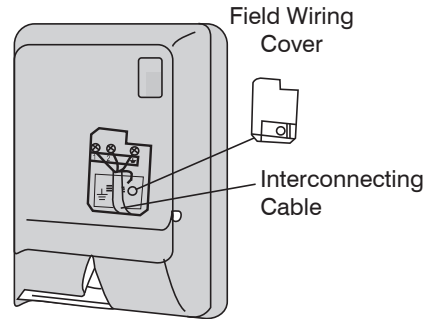

Fig. 14 – Field Wiring Cover
5. Open front cover of indoor unit and remove field wiring terminal block cover (see Fig. 14)